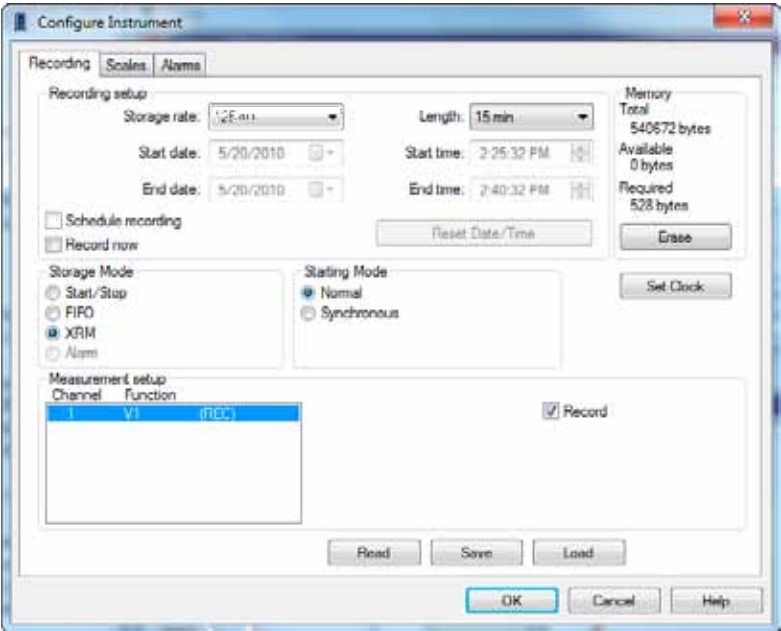

Figure 5-6
- 2. Next, select **Configure** from the **Instrument** menu and the Configure Instrument dialog box, similar to Figure 5-6, will be displayed.